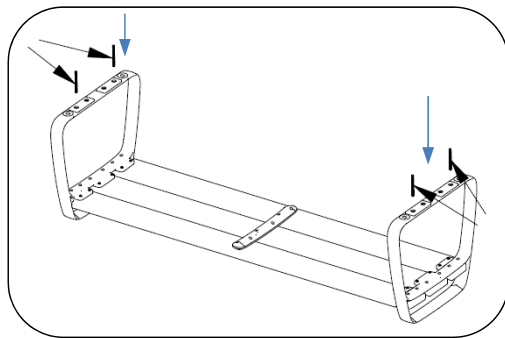

Fig. 2 – Install threaded rods
3. Install four threaded rods as shown in Fig. 2.